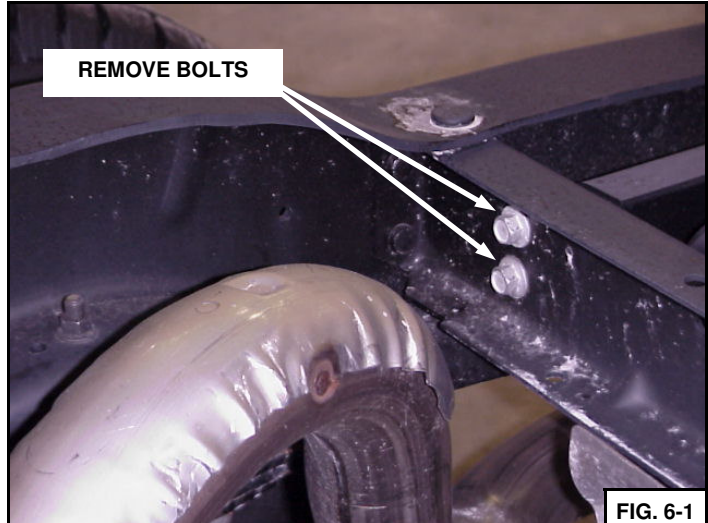

FIG. 6-1
1. On the passenger side, remove the two (2) bolts that fasten the aft of axle cross-member to the fuel tank longitudinal member. See Figure 6-1.
2. Loosely fasten the Lateral Control Rod to the LCR Frame Bracket using (1) 5/8 X 3 1/2 UNF BOLT, and (1) 5/8 WASHER. Slide the LCR Frame Bracket into the cross-member until it is securely contacting the inside of the passenger side frame. Fasten the LCR Frame Bracket to the cross-member using the bolts removed from step 1. (See Table 11-1 for appropriate Torque). **Note:** If you don't assemble the Rod to the Bracket before assembly to the frame, you will not be able to get the bolt inserted properly.